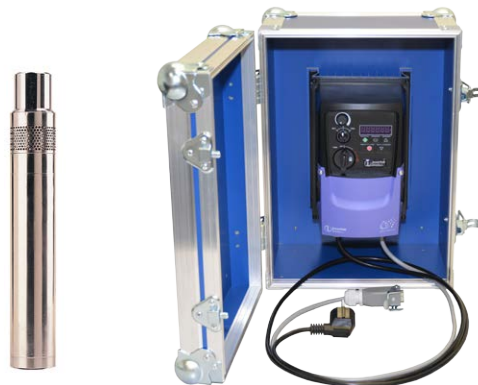

Fig. 1 Submersible pump Grundfos MP 1/Redi-Flo2 and frequency converter
**The pump must always be powered via the converter. See fig. 1.**